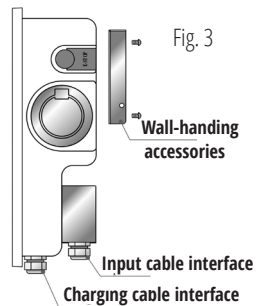

Fig. 3
**STEP 2. THE BODY OF THE CHARGING STATION.** As the Fig. 3 shown, fix the bracket to the body of the charging station with 4 screws (M5×8).